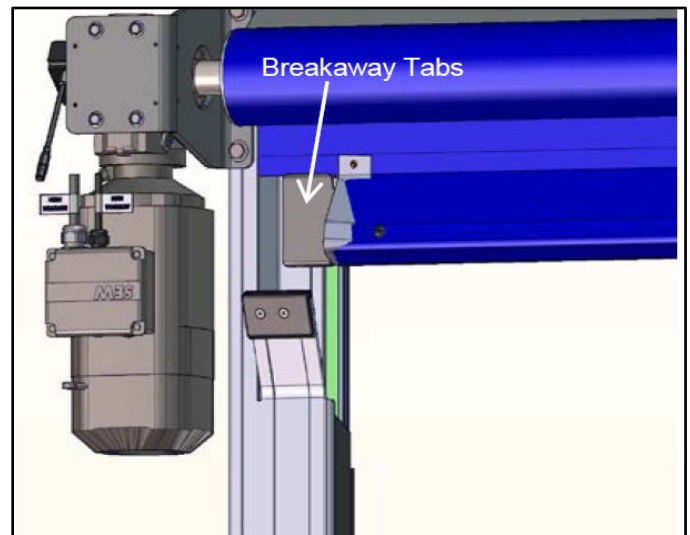

**Figure 8**
1. With the door in the closed position, check the Flexible bottom edge it should be in the position shown in figure 8.
**Damage to the Flexible bottom edge or other parts can occur if the door is allowed to seal too tightly against the floor. (See Figure 8.)**